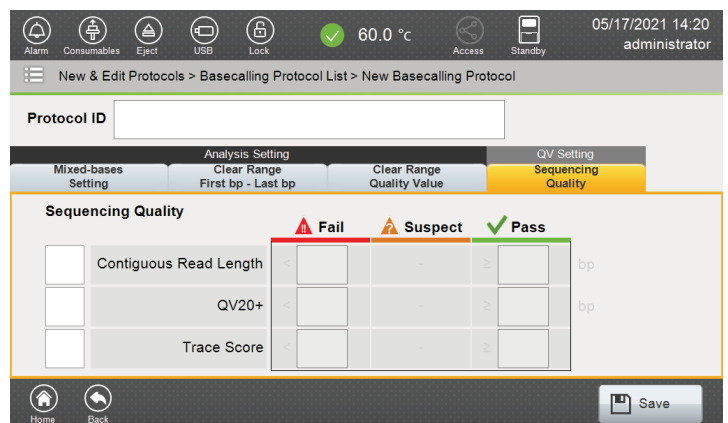

Figure 126. 'Sequencing Quality' tab.
Sequencing Quality	<p>Defines the CRL, QV20+ and Trace Score values for passing and failing data (Figure 126). Data that fall between these values will be flagged as “Suspect” (data should be manually reviewed in ‘Result’ tab to determine whether or not it is acceptable to the user or requires reinjection). See ‘Result’ Tab in Section 5.7 for definition of CRL, QV20+ and Trace Score.</p> <p>Minimum and maximum values allowed by software for CRL are 1bp and 800bp, respectively. The value entered in the ‘Fail’ field must always be less than the ‘Pass’ field.</p> <p>Minimum and maximum values allowed by software for QV20+ are 1bp and 800bp, respectively. The value entered in the ‘Fail’ field must always be less than the ‘Pass’ field.</p> <p>Minimum and maximum values allowed by software for Trace Score are 1 and 60, respectively. The value entered in the ‘Fail’ field must always be less than the ‘Pass’ field.</p>
- Select the 'Sequencing Quality' tab to reveal the default settings for minimum passing and maximum failing CRL, QV20+ and Trace Score values (Figure 126). Select which parameters to use for assessing sequencing quality by checking the appropriate box to the left of the CRL, QV20+ and Trace Score parameters.